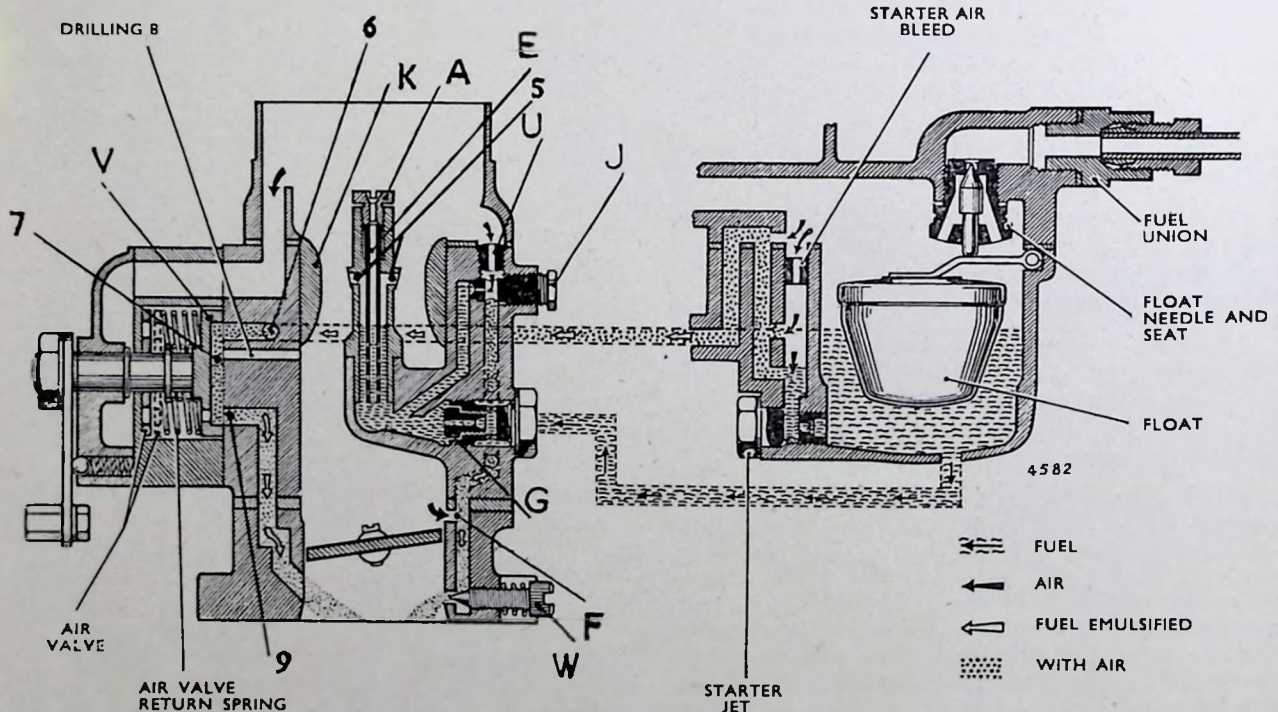

FIG. 3.—Sectional view showing the B32 PB10-4 carburetter operation under starting conditions.
Starting from Cold. (See Fig. 3.)
Zero Progressive Starter Operation. (See Fig. 3.)
When starting under very cold conditions the choke control knob is pulled out which moves the lever against its rear stop. This lever turns the shaft which moves the starter disc valve and its transverse channel into position so that suction created by cranking the engine draws fuel from the starter jet shown in Fig. 3. This fuel is emulsified by air drawn through the starter air bleed also shown in Fig. 3, and travels along the channel (6), across the channel in the disc valve (V) and then into the induction manifold.
As soon as the engine fires, the inlet manifold suction increases and lifts the air valve from its seating against its light return spring as shown in Fig. 3.
The car may now be driven away without difficulty, although the engine is still cold. When the throttle is opened depression acting on the drilling (8) (Fig. 3) draws an additional supply of fuel from the channel in the disc valve (V) to meet engine requirements. At the same time depression acting on the hole (9) continues to draw fuel from the channel in the disc valve.
Slow Running. (See Fig. 3.)
Normal Acceleration to Cruising Speed. (See Fig. 3.)
(See Fig. 3.)